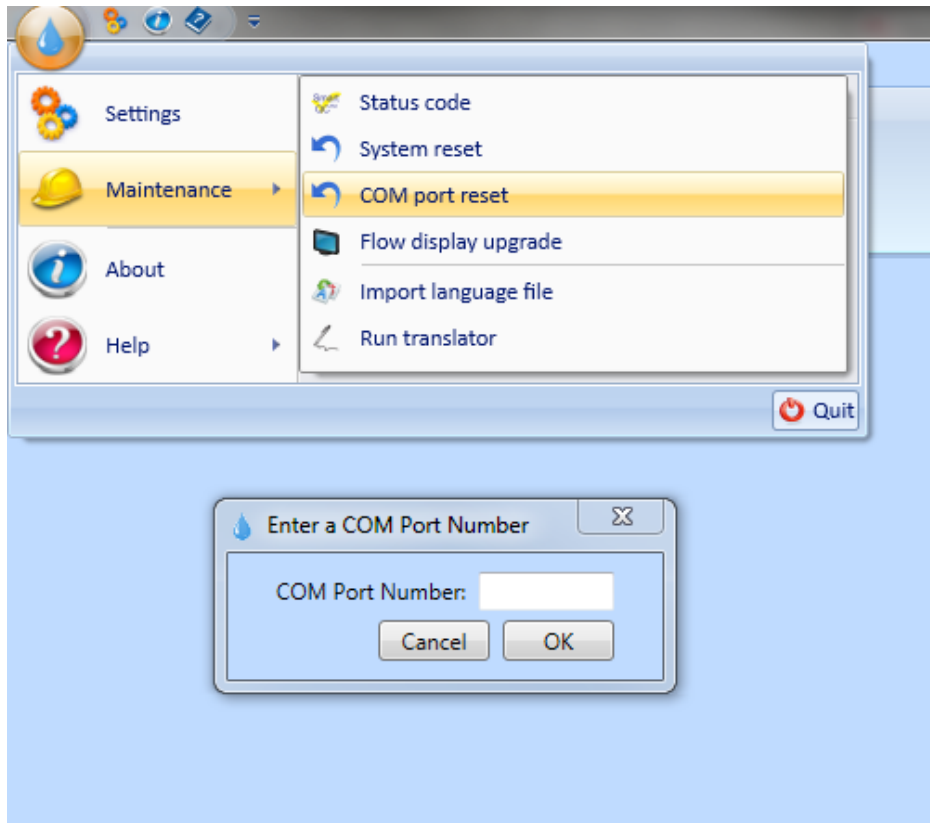

Figure 84. SL Software reset function
- The System Reset function can also be found in the Maintenance menu accessed from the SL icon in the upper left corner of the software (Figure 84).